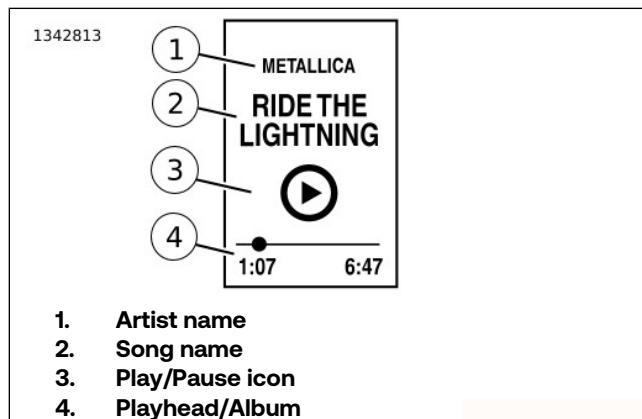

Figure 45. Audio Widget
See Figure 45. The music widget displays music information from a connected device. This information includes artist name (1), Song name (2), play pause icon (3) and either a playhead or album name (4).